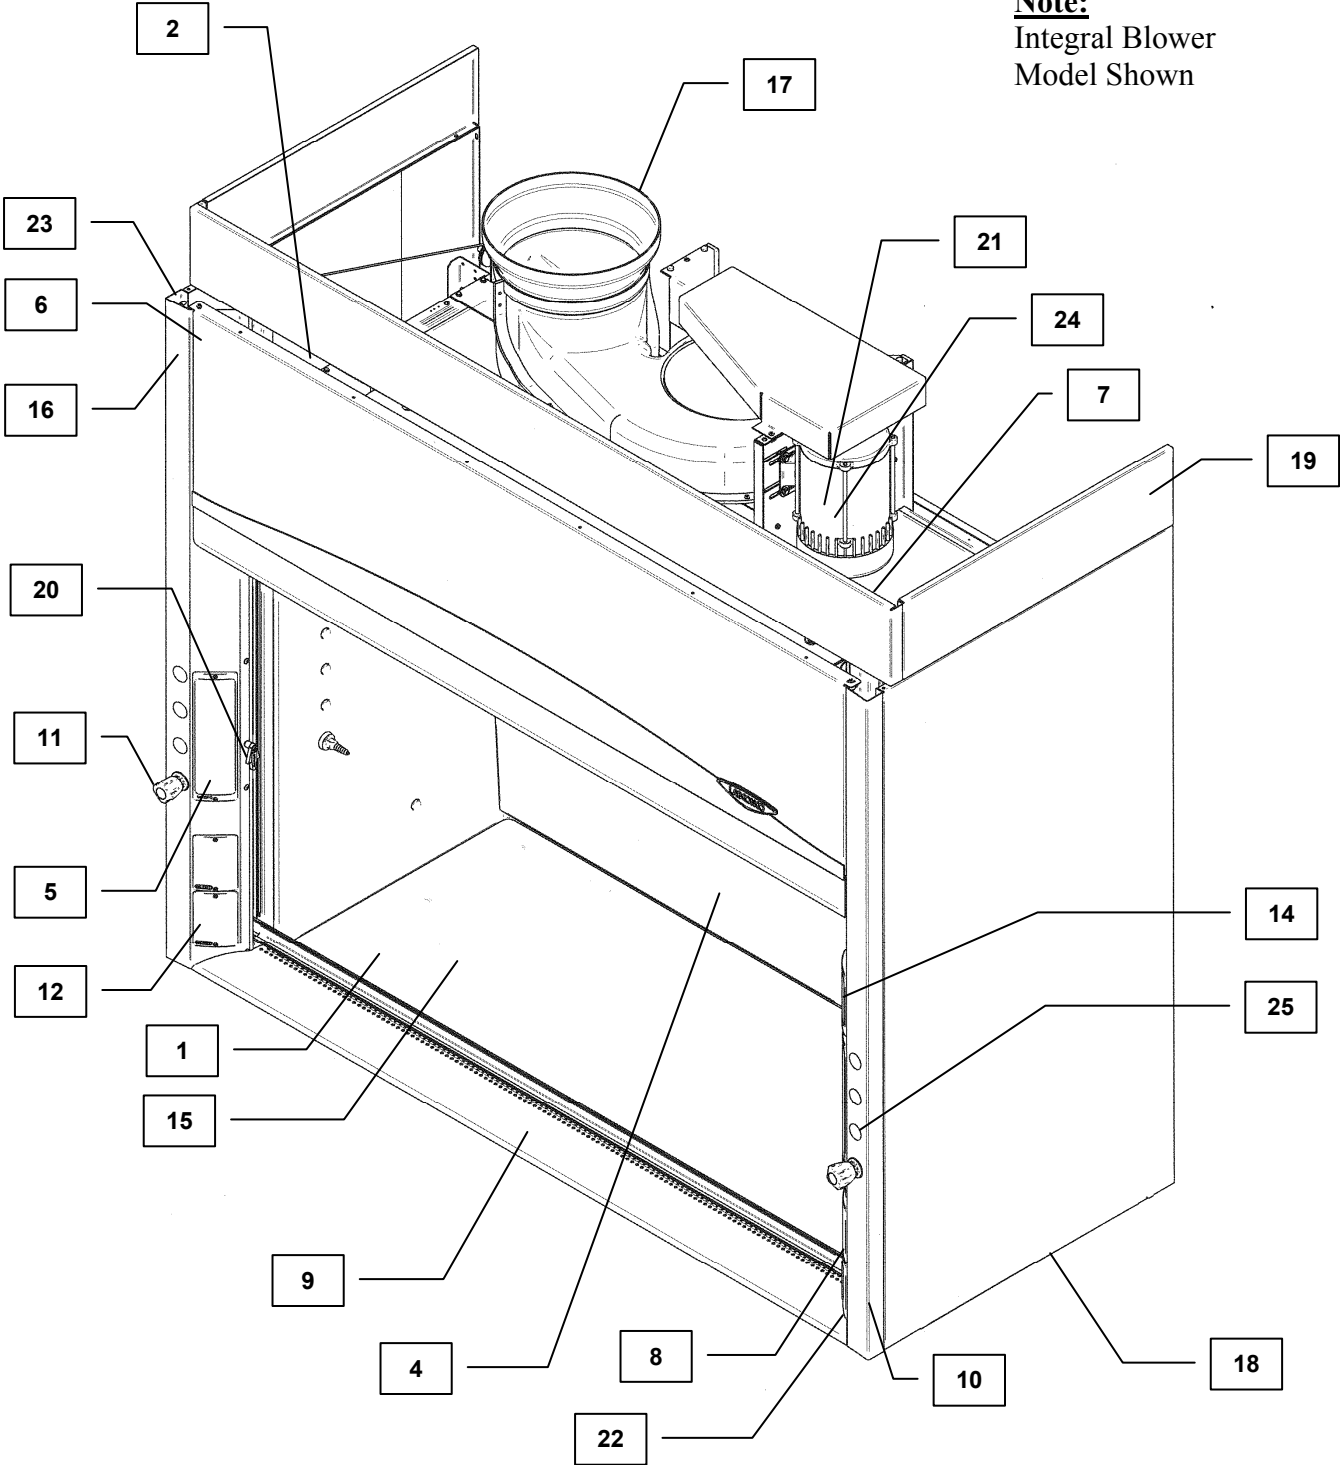

Figure 4-1
19. **Optional Ceiling Enclosure Kits** are available for a decorative facade between the hood and the ceiling. Integral Blower models have a facade as shown in Figure 4-1.
21. **Integral Blower Models** available as shown in Figure 4-1.